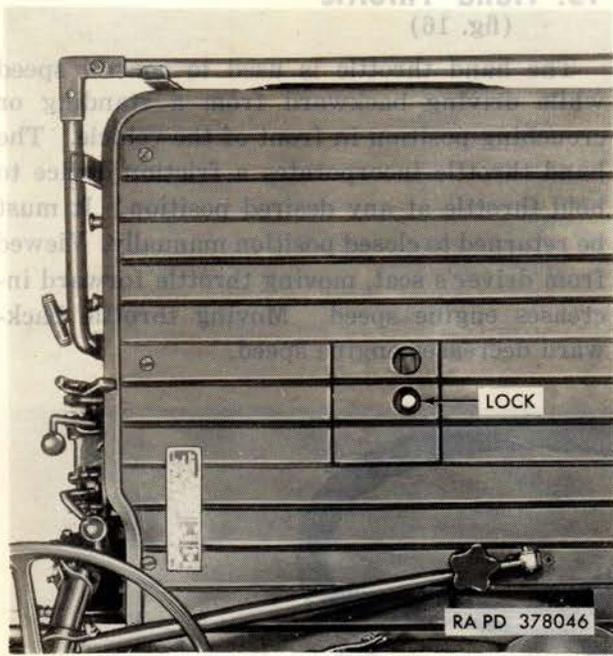

Figure 13. Steering access opening lid showing lock.
a. The vehicle may be used with either two- or four-wheel steer. To gain access to connections, turn locknut (fig. 13) on the steering access opening lid (fig. 13) (to right of driver's